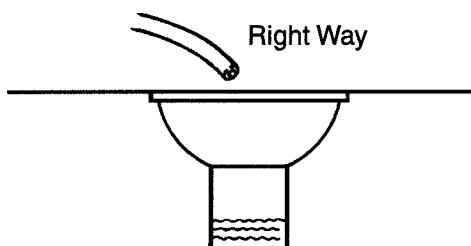

Figure 3
6. Where the drain empties into a floor drain, refer to Figure 3.